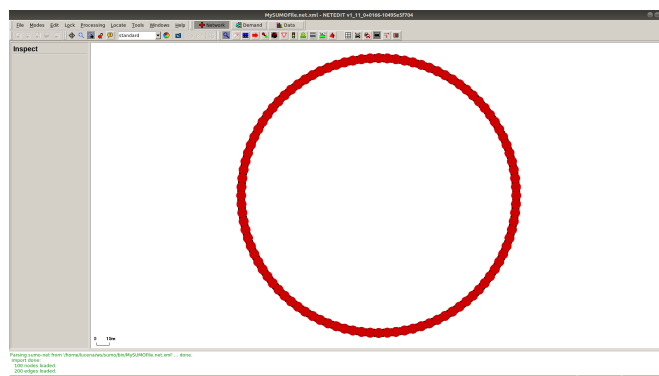

Figure 2: netgenerate file open in netedit.
3. Open the netedit tool through the command line and open the created *.net.xml file. You should see Figure 2: